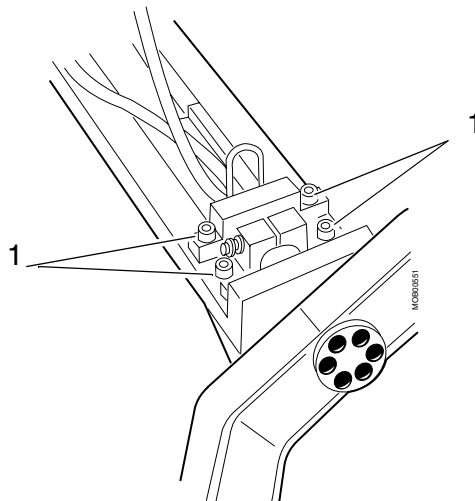

Fig. 20 Removing the single tank
27. Remove the single tank by unscrewing four screws (pos. 1 / Fig. 20).